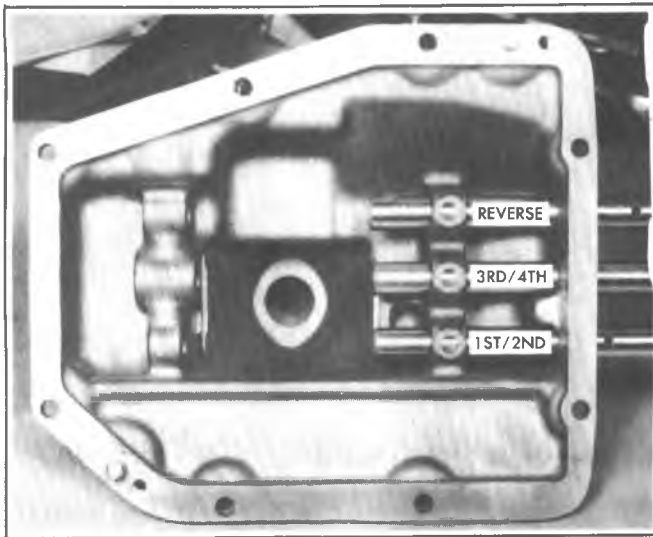

Fig. 7B-7L-Shifter Shaft Installation
4. Support front surface of retainer in press, start seal and tool in retainer bore and drive seal into retainer until flange of tool bottoms on retainer (Fig. 7B-13L).
Disassembly (Fig. 7B-14L)